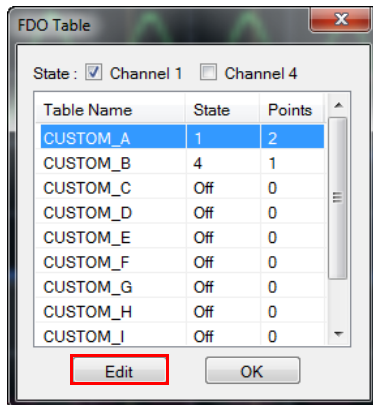

Figure 2-55 Edit button
- 4 To display the custom FDO table data dialog, select the desired custom FDO table name, and select **Edit** as shown in Figure 2-55, or double-click or double-touch the desired custom FDO table name.